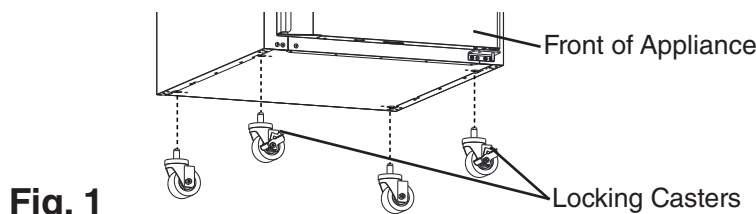

Fig. 1
- a) **Casters:** Attach and tighten the casters to the bottom of the appliance. Locking casters should be attached to the front of the appliance. See Fig. 1.